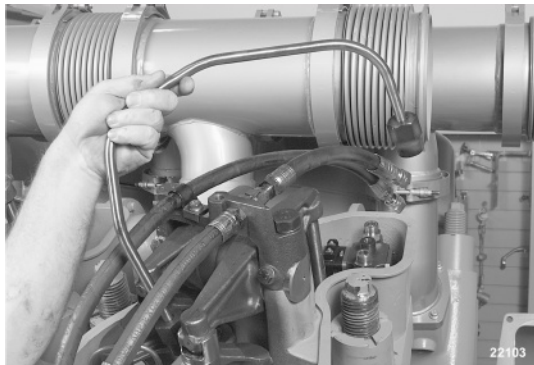

Figure 7.3 *High Pressure Fuel Line.*
4. Disconnect high pressure fuel line from pump and nozzle; remove line. (figure 7.3)